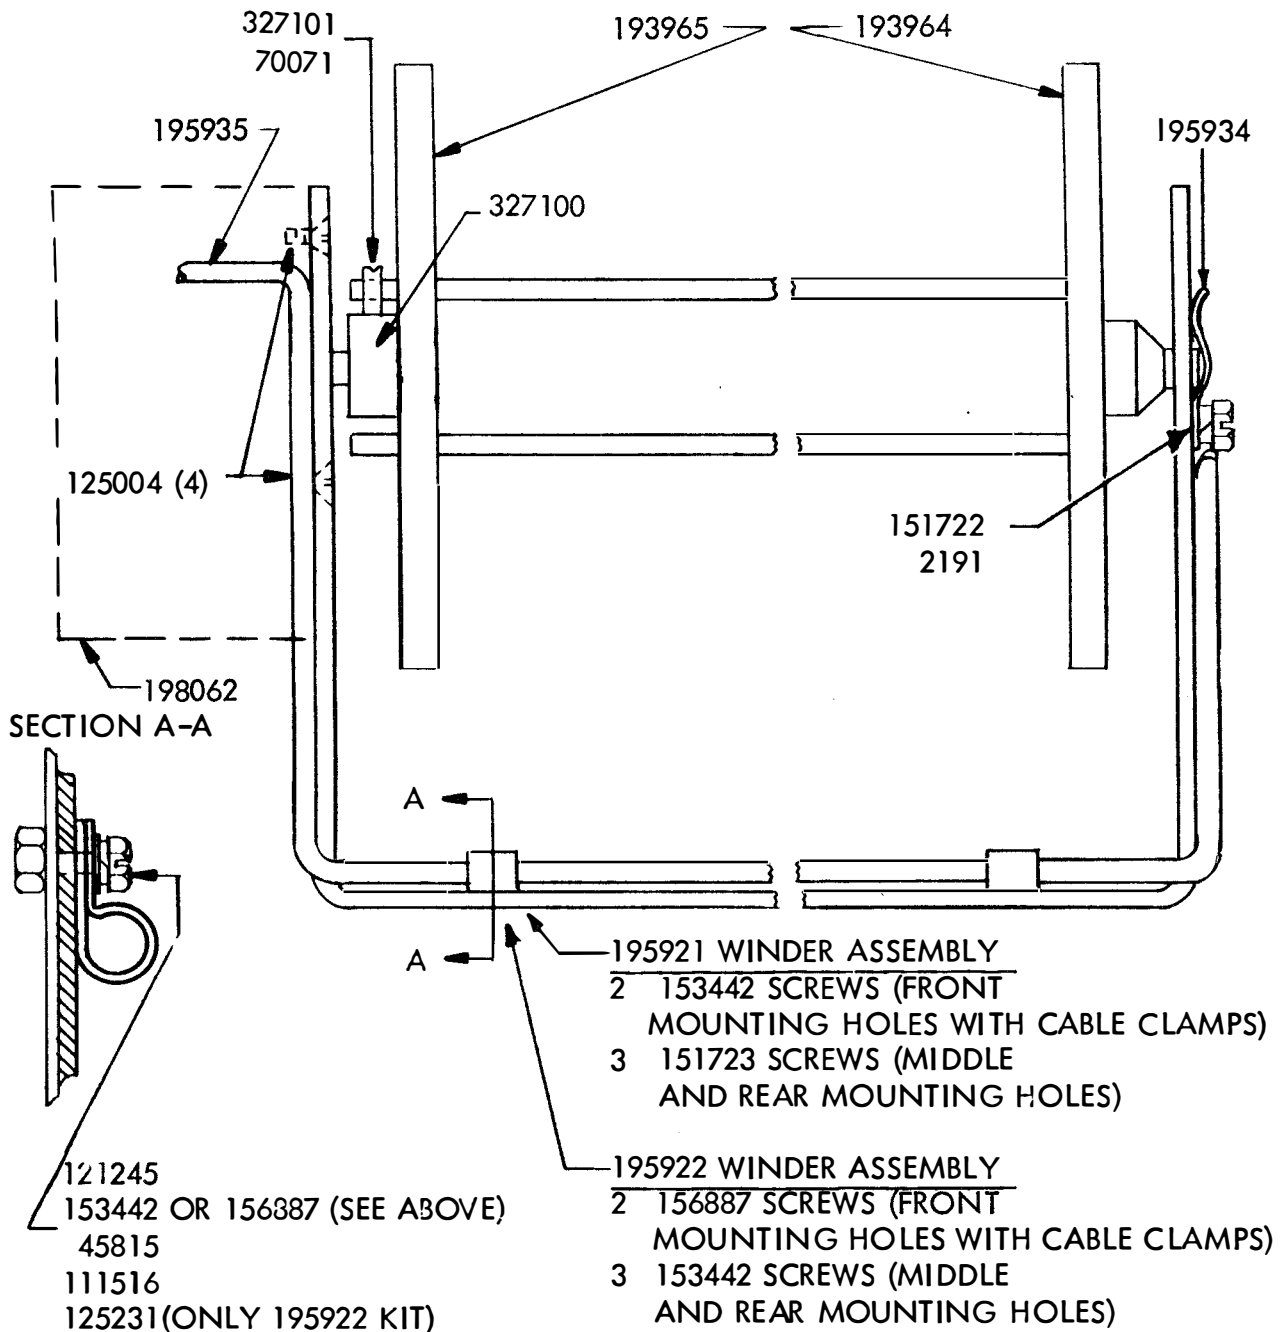

FIGURE 2. MOUNTING OF PAPER WINDER ASSEMBLY
(3) Assemble the 195921 paper winder assembly to the 146149 base plate using two 153442 screws, three 151723 screws, five 45815 lockwashers, five 111516 washers, and two 121245 cable clamps provided. See Figure 2 for location of parts.
(4) Position the 195921 paper winder assembly (left or right) so that the paper as it comes off the printer platen lines up with the flanges of the paper winder spindle.